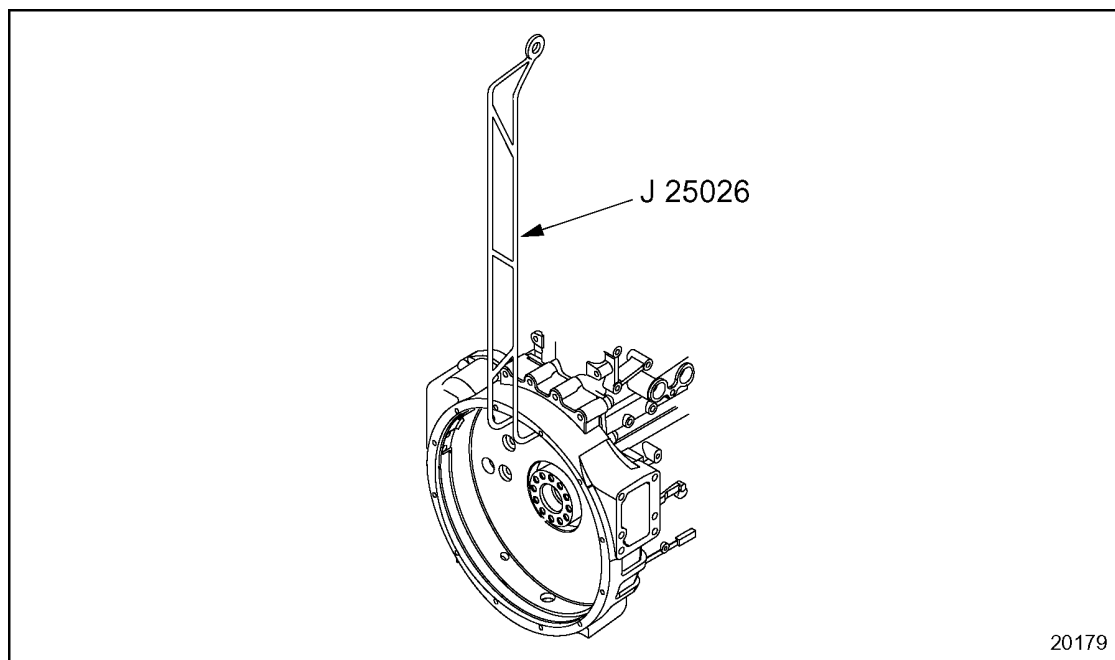

Figure 1-211 Flywheel Removal
7. Attach the flywheel lifting tool, J 25026 part of J 25026–A, or some other suitable lifting device, to the flywheel. See Figure 1-211.